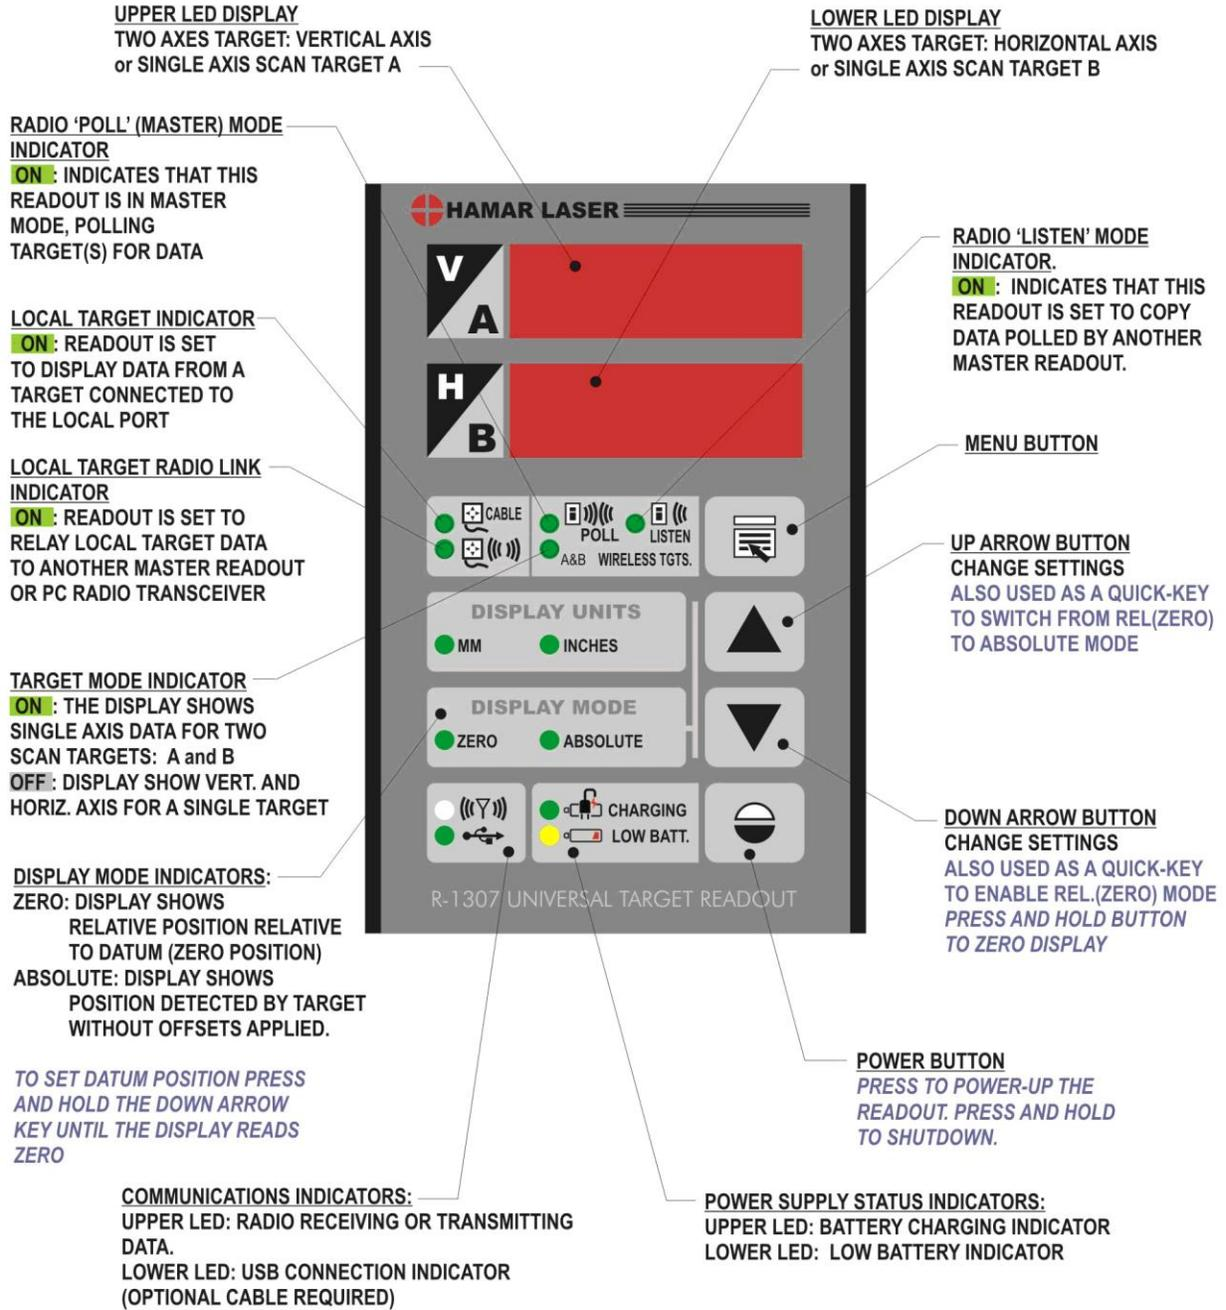
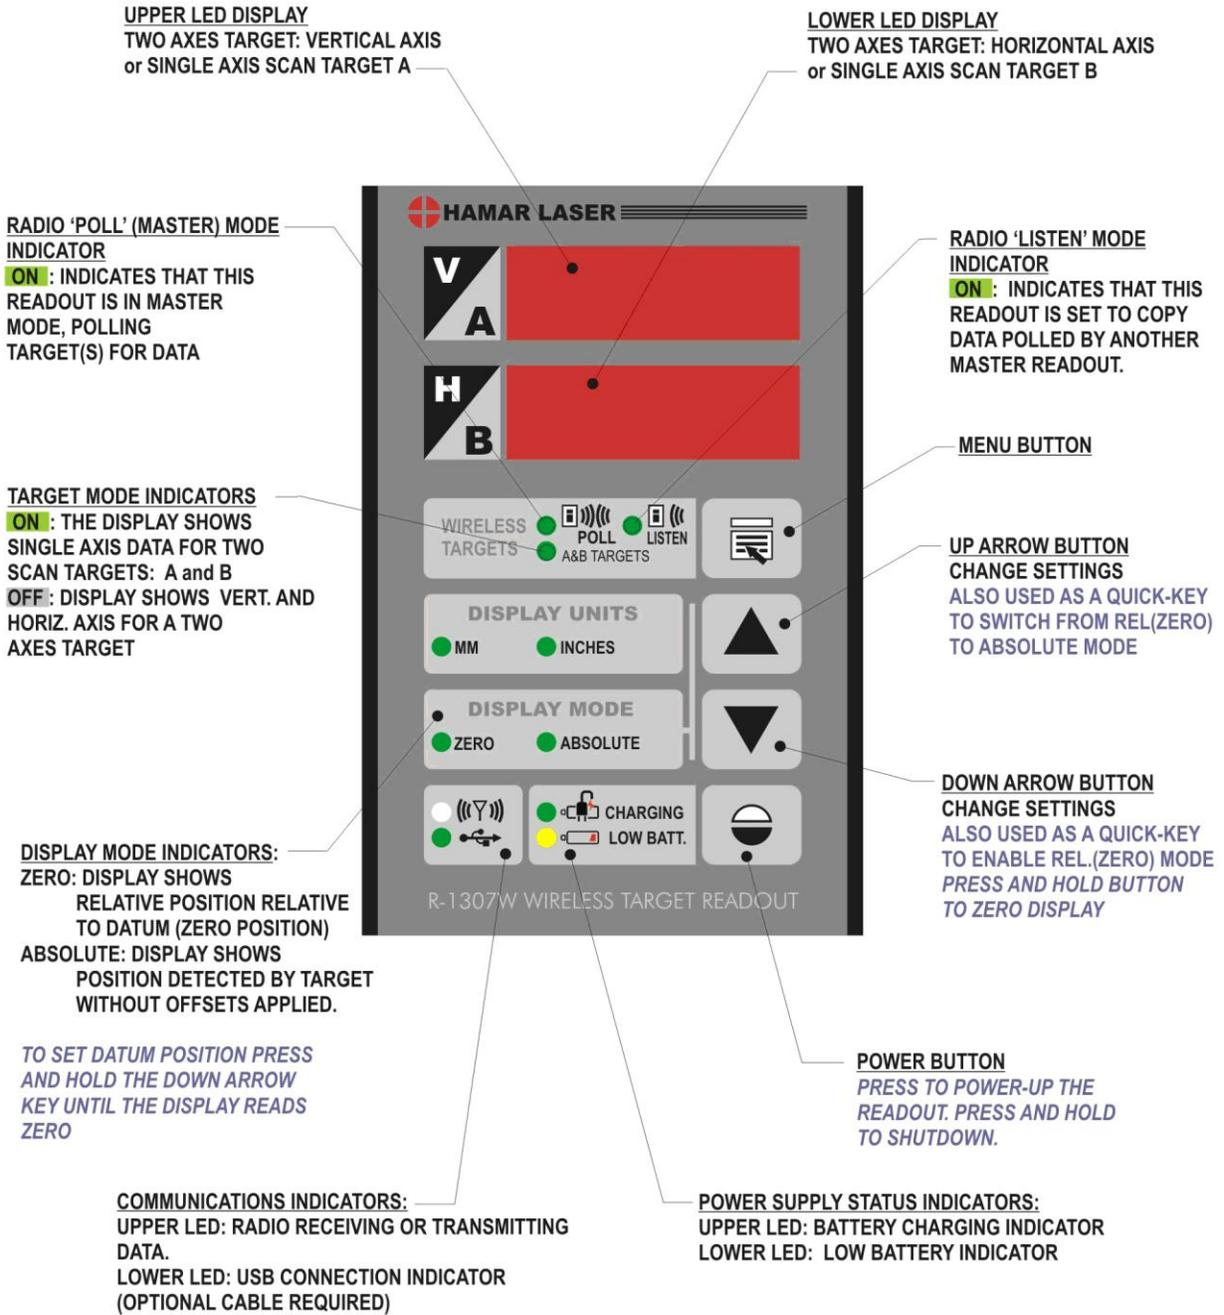

Figure 5 – R-1307 Models Control Panel Features
Figure 6 – R-1307W Readout Control Panel Features
**Note:** Refer to Figure 13 for configuring the Readout to display data from one target in dual-axis (fixed beam) mode and Figure 14 for configuring the Readout to display data from two targets in single-axis (scanning beam) mode. Refer to Figure 5 or Figure 6 for descriptions of the control panel buttons and indicator function applicable to your unit and to Figure 16 for a list of Menu settings.